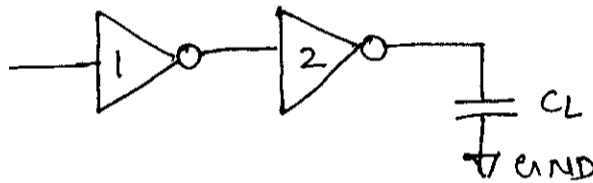

Fig.Q.3(b)
- b. Two nMOS inverters are cascaded to drive a capacitive load $C_L = 16 \square C_g$ as shown in Fig.Q.3(a). Calculate the pair delay (V_{in} to V_{out}) for inverter geometry shown in Fig.Q.3(a). What are the ratios of each inverters? If strays and wirings are allowed for it would be reasonable to increase capacitance to ground across the output of each inverter by $4 \square C_g$. What is pair delay allowing for strays? Assume ($5 = 0.3 \text{ nsec}$ for $5\mu\text{m}$ MOS technology). (10 Marks)